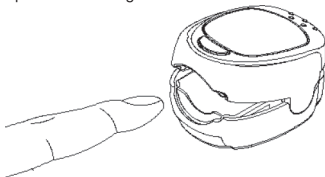

Figure 3 Put Finger into the Oximeter
1. Open the clip as shown in Figure 3.